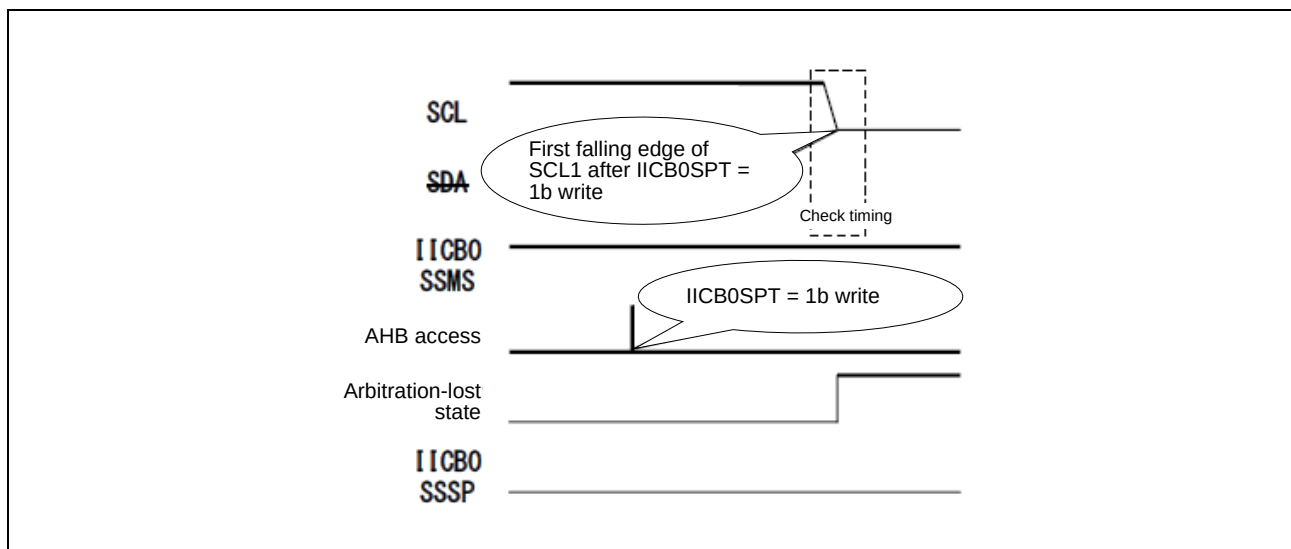

Figure 29.6-14 Arbitration-Lost State in (10)
In (10), after writing 1 to IICB0SPT, arbitration is checked when the first falling edge of SCL1 after the output of a stop condition is detected. When the stop condition is not detected by the time the falling edge of SCL1 is detected, this is judged to be an arbitration loss. **Figure 29.6-14** shows the arbitration-lost state.